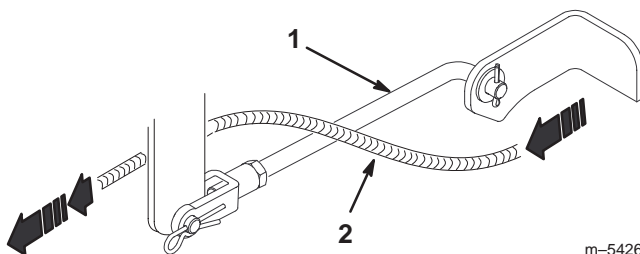

Figure 6
6. Route the harness over the front trunnion rod (Fig. 6) and connect the wire harness to the front lights.